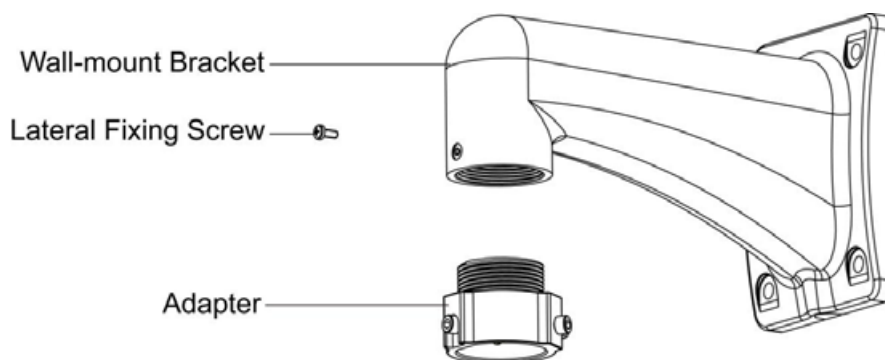

Fig 2.2
5. Install the adapter onto the Wall-mount Bracket and lock the lateral fixing screw firmly (See Fig 2.2).